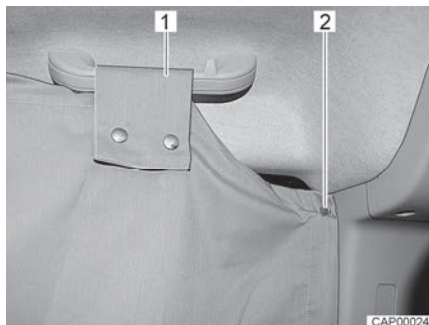

Fig. 14 Cabin black-out shade on side pane
- Fasten cabin black-out shade on one side of the driver's cabin. In order to do this, fasten two snap fasteners (Fig. 14,2) behind the side pane, on the B column.
- Guide loop (Fig. 14,1) over the handle above the side pane and fasten with snap fasteners.